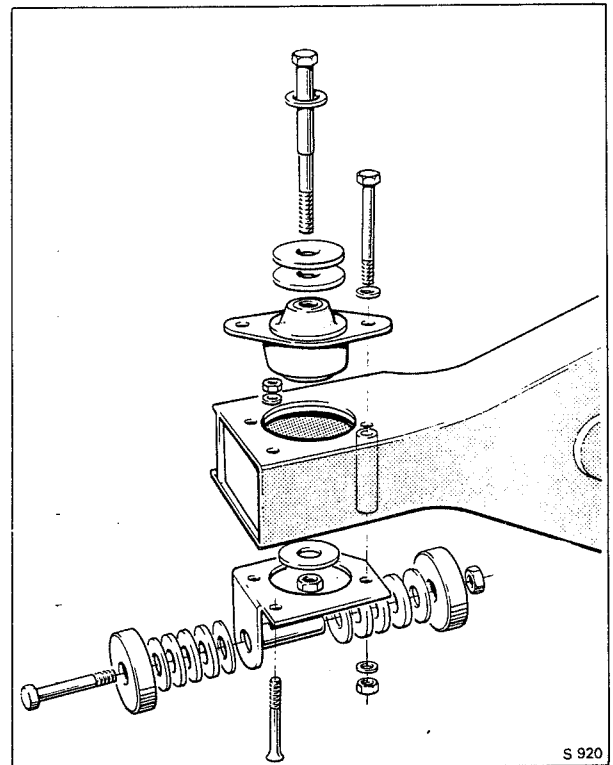

Fig. J16 Final drive crossmember mount and harmonic damper
2. Remove the two setscrews securing the mount to the final drive crossmember, collect the two distance tubes and remove the mount from its locations (see Fig. J16).
1. Fit the rubber discs with one thin disc on each side of three thick discs to each side of the mounting bracket (see Fig. J16).